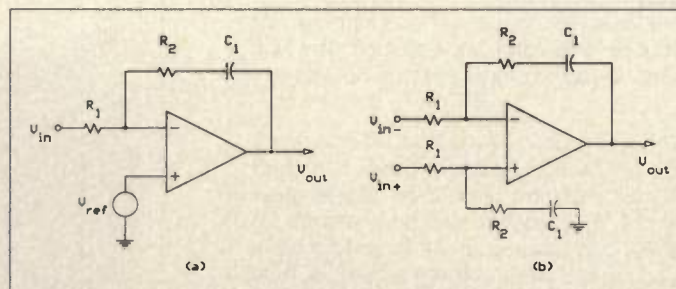

Figure 2. The type 3 active loop filter, a) Single ended input, b) differential input.
Equation 2 may be placed into normalized form when an explicit form is substituted for the loop filter function $F(s)$. For frequency synthesis applications, the most common filter form is the type 3 active filter (2). This low pass filter acts as an integrator at low frequencies, with a higher frequency zero that prevents loop instability by keeping its phase shift less than 90 degrees. Circuits for this filter are shown in Figure 2. Analysis of the type 3 active loop filter yields its transfer function to be: